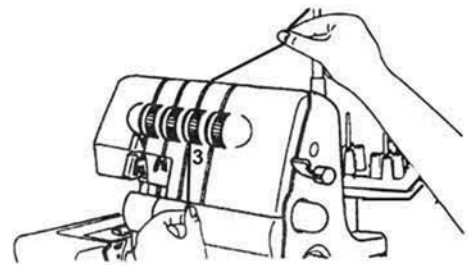

Fig. 17
4. Firmly hold the yarn with your fingers, guide it between and through the discs of the thread tension selector 16 and then pull it down (3) (Fig. 17).
① Note: